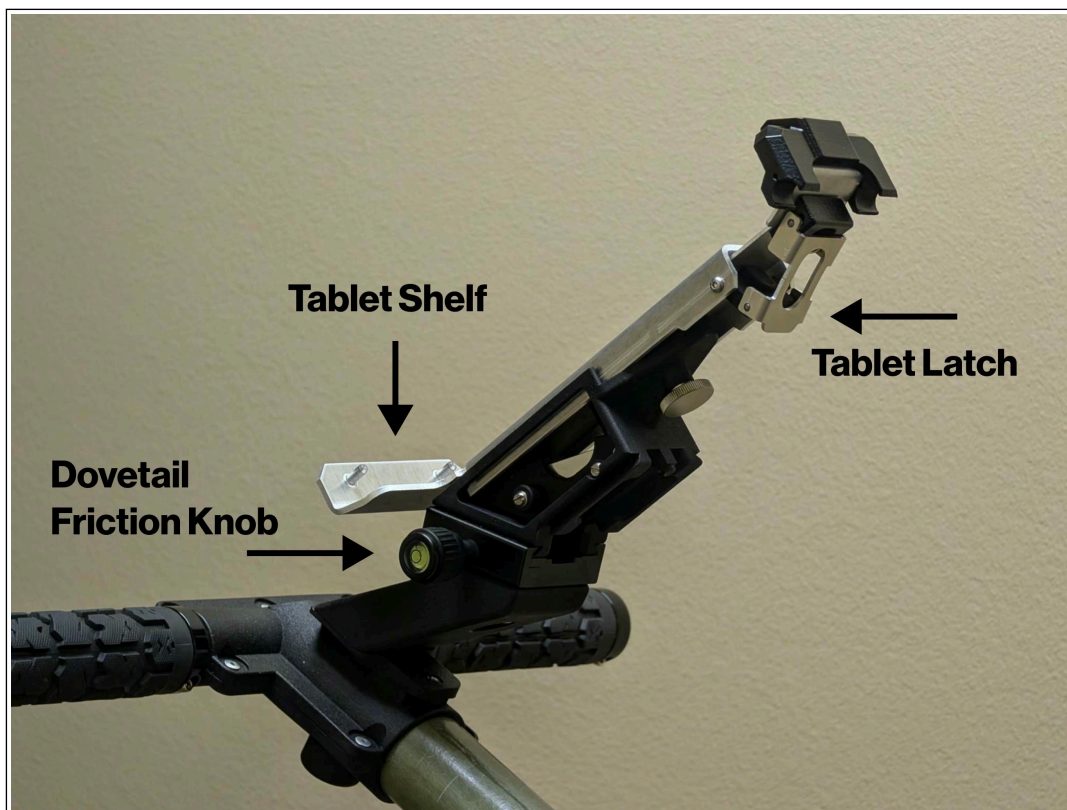

Figure 9: The tablet mount attached to the cart, showing the tablet latch in the open position.
4. Pull the tablet latch on the back of the tablet mount toward the front of the scanner to unlock the upper half of the clamp, as shown in Figure 9.
6. Align the holes in the bottom of the tablet to the pins on the tablet shelf (see Figure 9), then lower the tablet to the shelf so that the pins are inserted into the tablet.